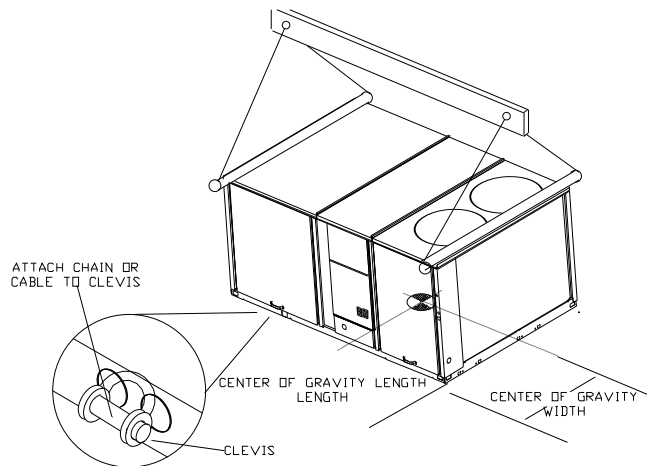

Figure 8. Rigging and center of gravity data
Refer to Figure 8 and Table 1 and Table 2 for typical unit operating weights rigging before proceeding.
2. Rig the unit as shown in Figure 8. Attach adequate strength lifting slings to all four lifting brackets in the unit base rail. Do not use cables, chains, or slings except as shown.
3. Install a lifting bar, as shown in Figure 8, to protect the unit and to facilitate a uniform lift. The minimum distance between the lifting hook and the top of the unit should be 7 feet.